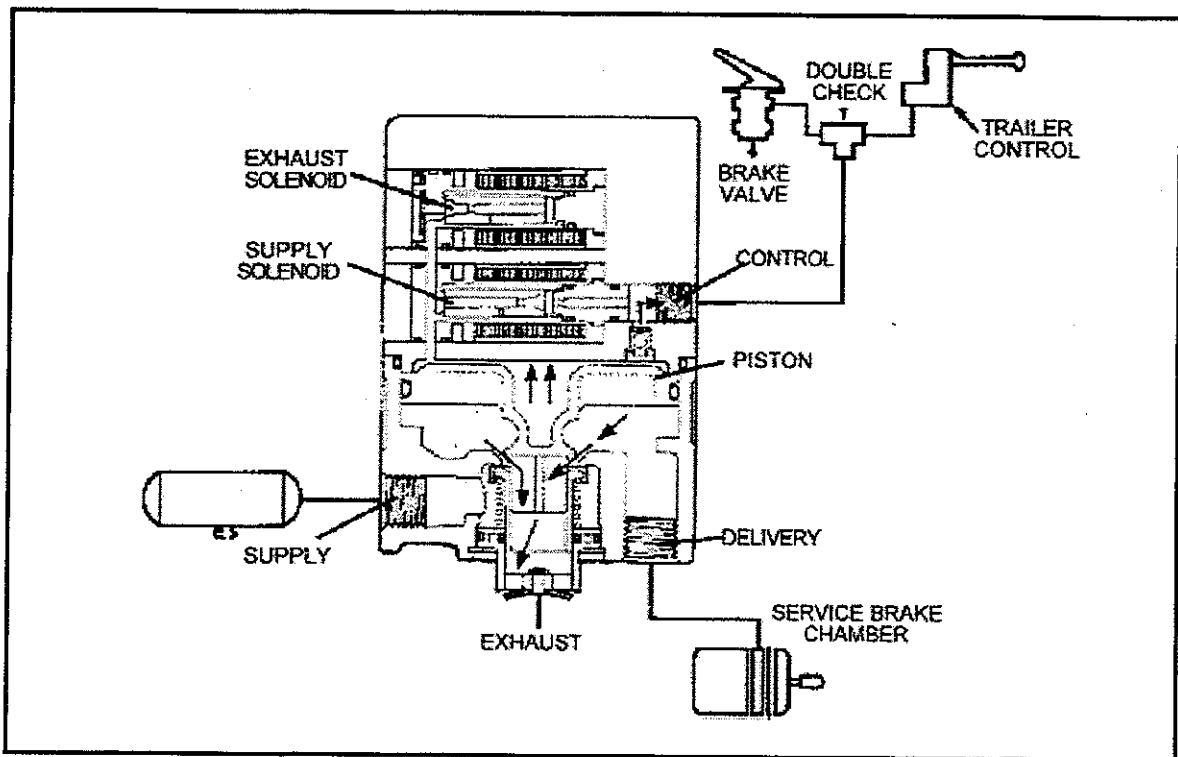

Figure 6—Exhaust Normal Service Application
- See Figure 6—Balanced Position Normal Service Application